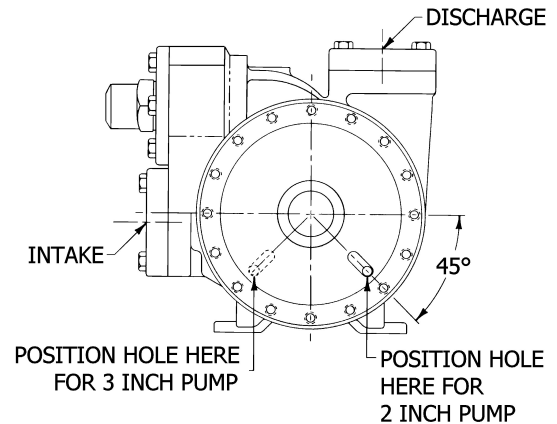

Figure 6 – Disc Relief Hole Location 2 and 3-inch Models
Install the disc (71) on the inboard side of the pump with the seal cavity facing outward and the disc relief hole located as shown in Figure 6.